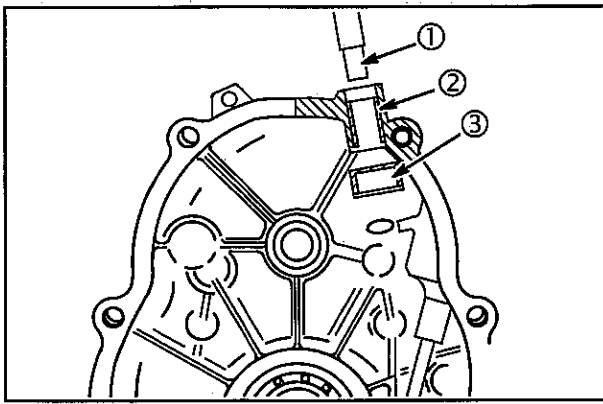

Fig. 9
- Press out upper bushing (2) using Bushing Driver #19204 (1), Fig. 9.